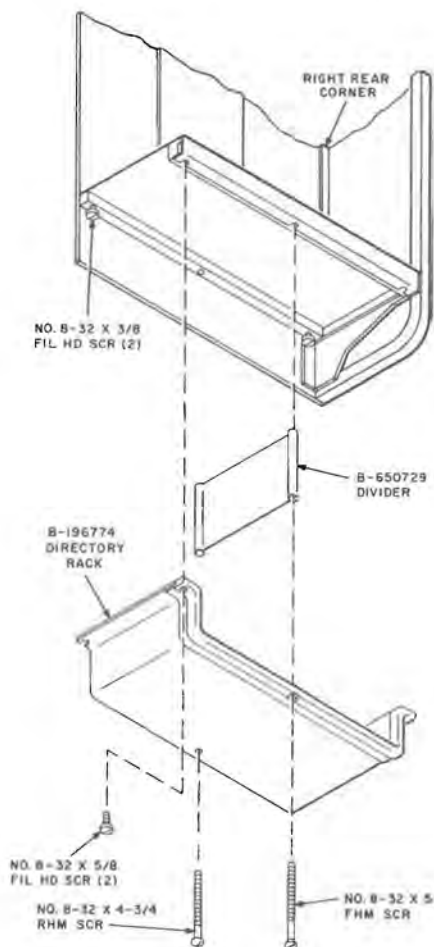

Fig. 8—Installation of KS-19267, List 11 Directory Rack
3.18 Install KS-19267, List 11 directory rack per Fig. 8.